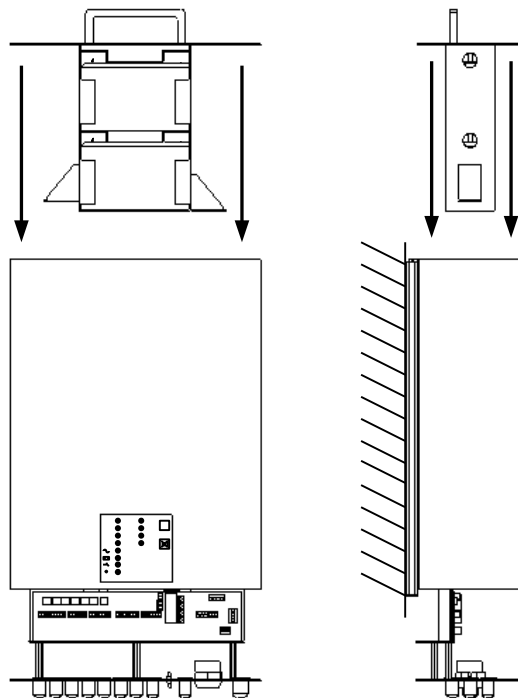

Figure 14: Alignment of battery holder
2. Place the battery holder in the station as shown in Figure 14.